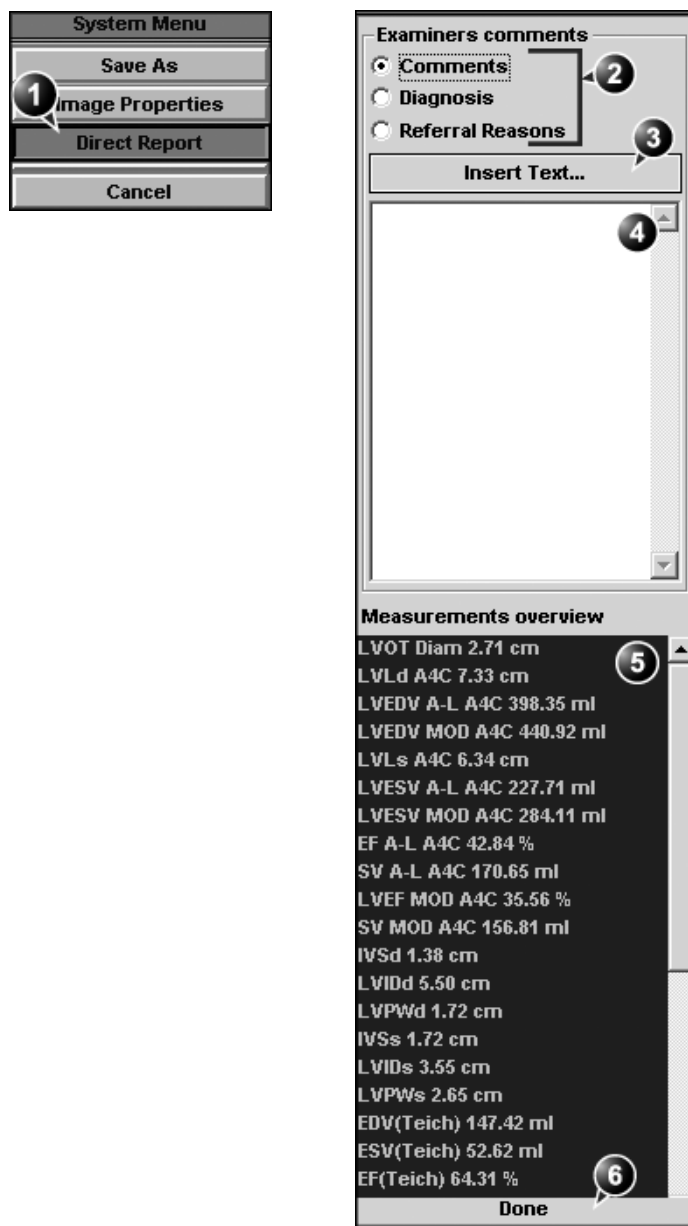

Figure 9-2: The Direct report
2. Select **Direct report** (see Figure 9-2).